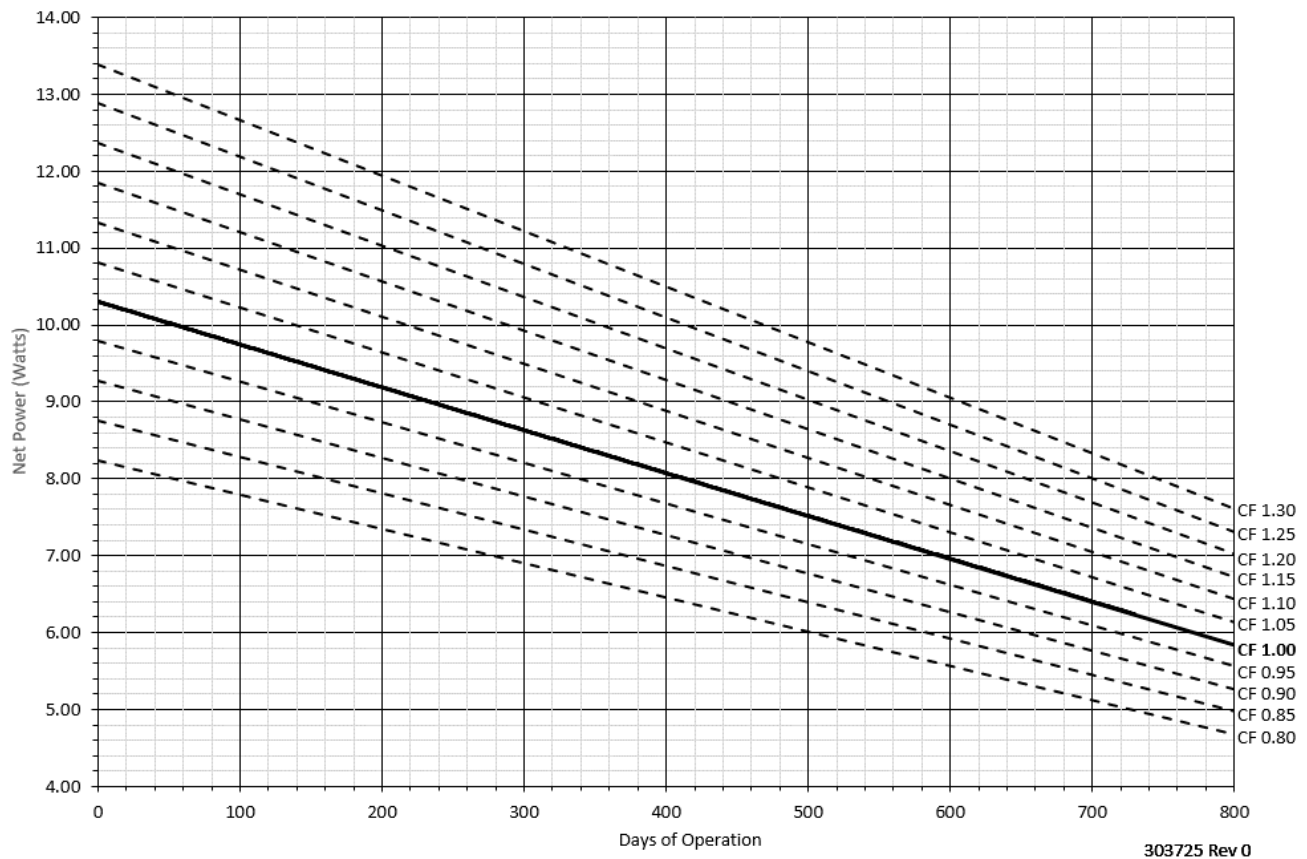

Figure 24 – Sentinel Net Power vs. Days of Operation
3. Refer to Figure 24, follow the correction factor line that is most relevant to factor calculated in step 1 until it crosses the power requirement for your site. The x-axis value at this intersection will be the number of days of operation before a catalyst cartridge replacement will be required. For example, overall correction factor determined = 0.90 and minimum load requirement is 7.5 W. Catalytic Heater Cartridge will require replacement after ~360 days.